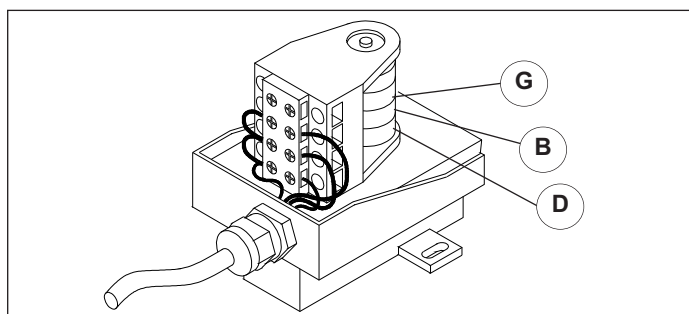

Figure 28.2
21. If the door has an optional alternate open (G) adjust to the desired alternate height using the same procedures as with the open and close limits, **Figure 28.2**.